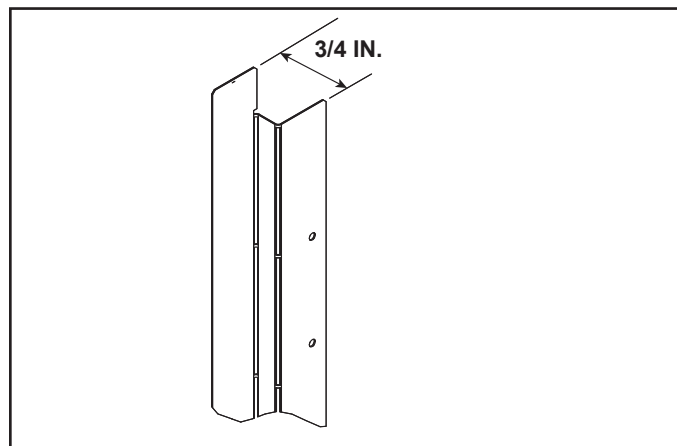

Figure 13.2 Left and Right Side Finishing Template Bends
1. Bend the left and right side templates for the appropriate door type using Figure 13.2 as a reference.